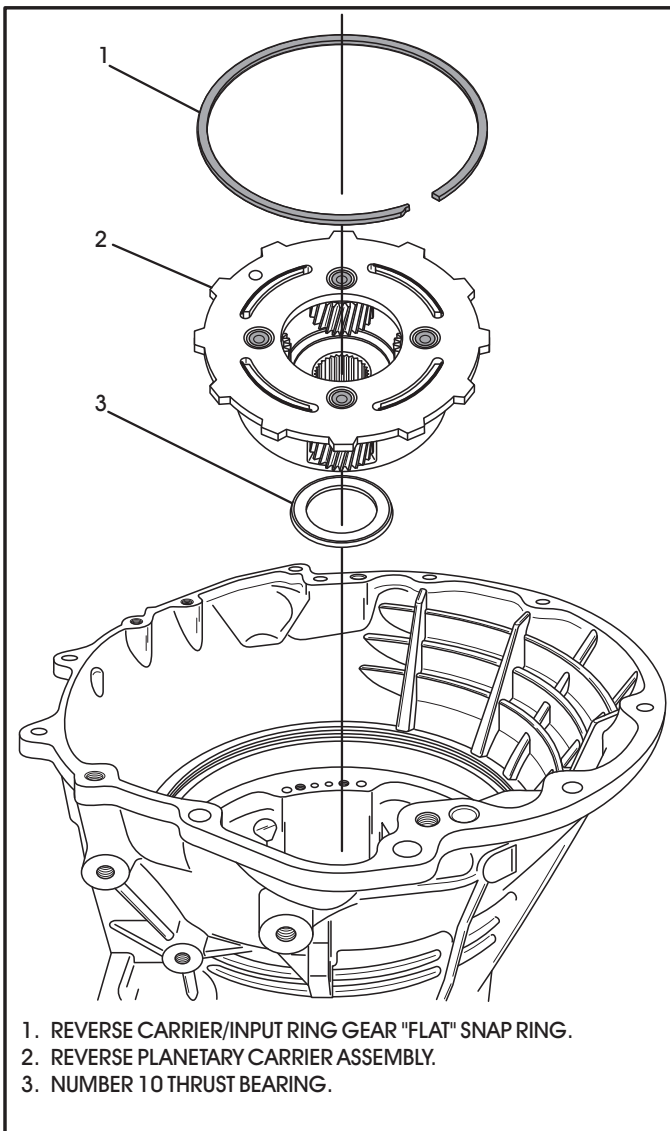

Figure 42
41. Remove reverse carrier/input ring gear "flat" snap ring from the input internal ring gear as shown in Figure 42.
42. Remove the reverse carrier/input ring gear assembly as shown in Figure 42.
43. Remove the number 10 thrust bearing assembly as shown in Figure 42.